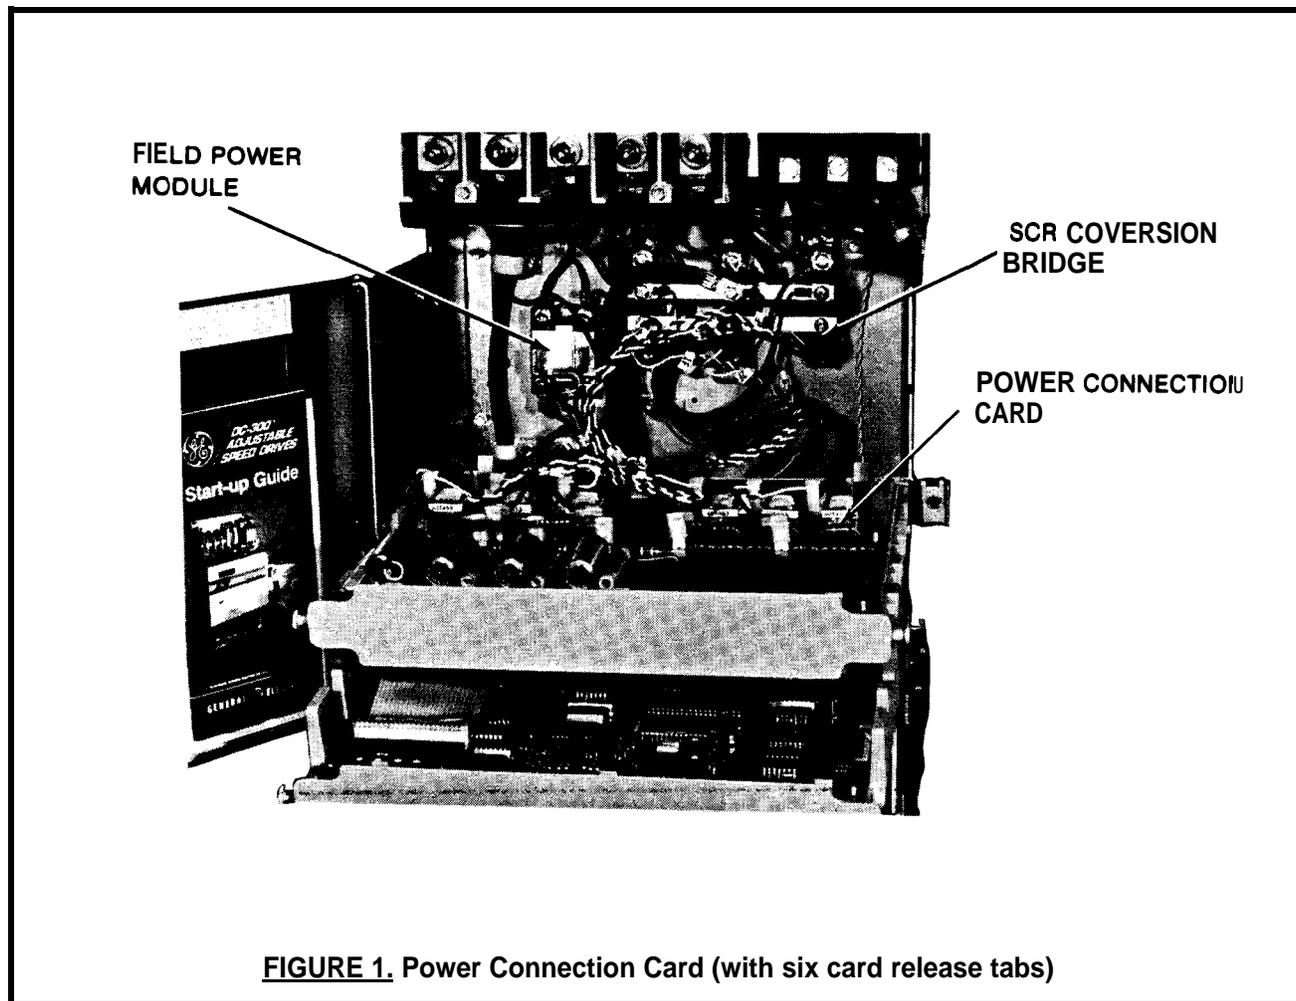

FIGURE 1. Power Connection Card (with six card release tabs)
2. Release all hold-down tabs (see Figure 1) and remove card.